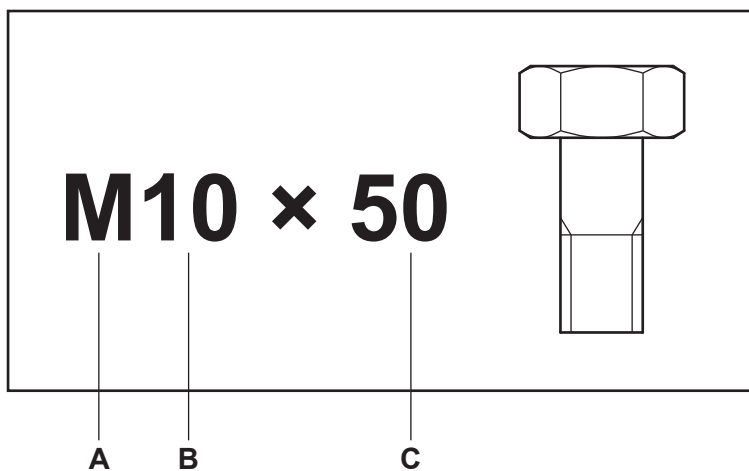

Fig. 2.1
- 2 Fig. 2.1 shows a label from the front of a box of steel bolts.